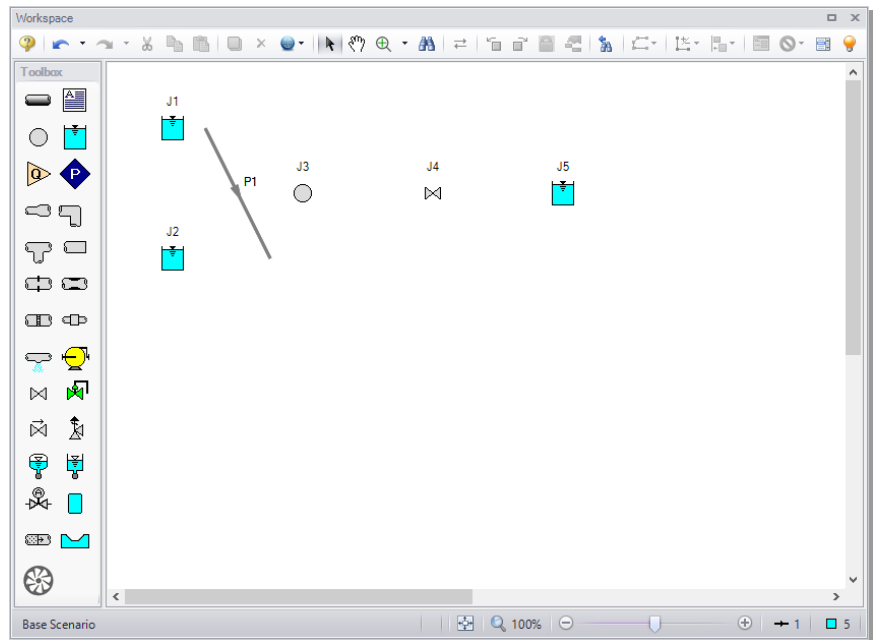

Figure 2.6 Valve closure model with the first pipe drawn
- **To create a pipe,** click the Pipe Drawing Tool icon on the Toolbox. The pointer will change to a crosshair when you move it over the Workspace. Left-click and drag to draw a pipe near the junctions, similar to that shown in Figure 2.6.